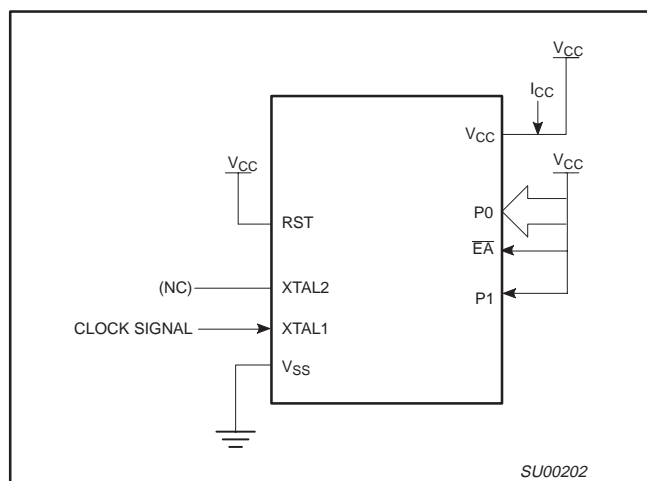

Figure 13. I_{CC} Test Condition, Active Mode
- See Figures 13 through 16 for I_{CC} test conditions.